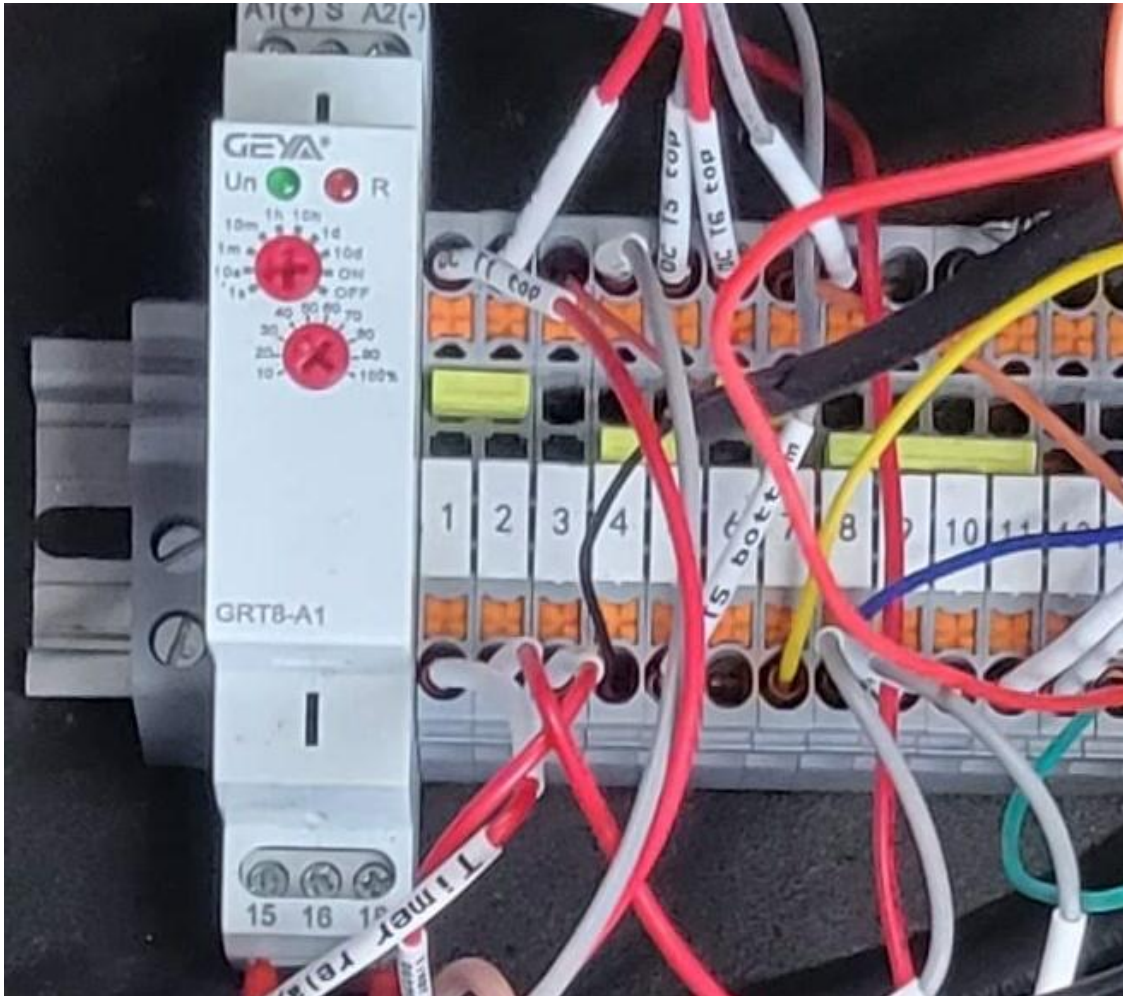
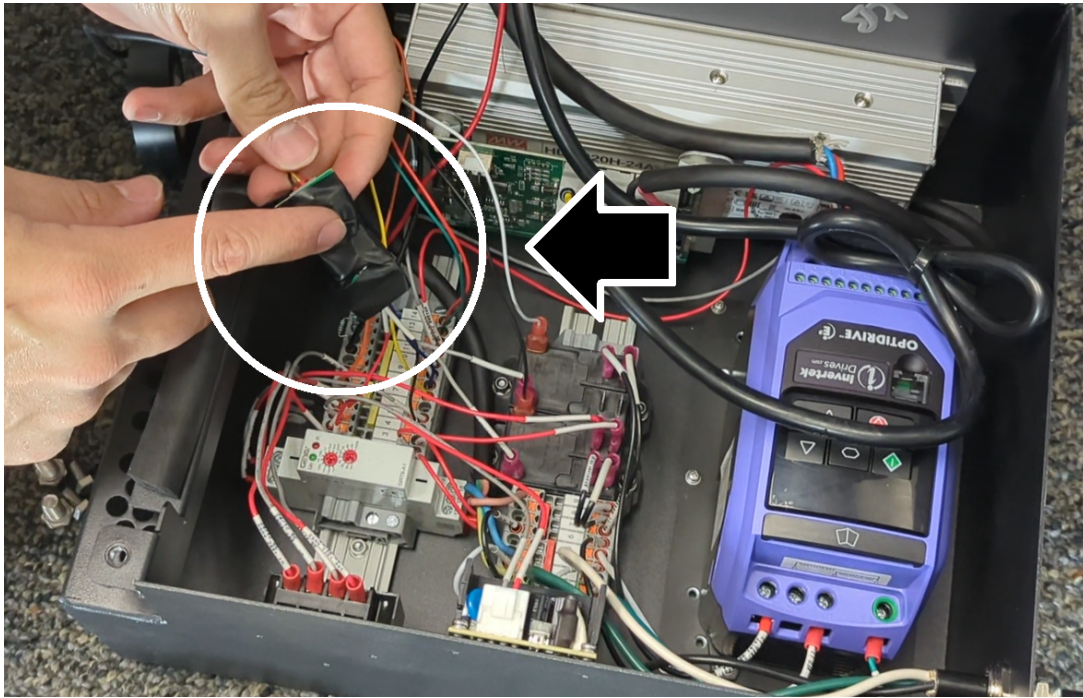

Figure 2.
Figure 3
7. Next, you must identify the wires for the water pump. This will depend if your model is a titan unit or a Max or Mach 4+. A thin black-sleeved cable that contains a red (positive), a black (Negative) wire and a Yellow (Speed) connected to a “**speed board**” (See figure 3.) in case of a titan unit the speed board is not present and the yellow cable might be tapped or cut the red and black cables are directly connected to the connector terminals. See Figure 2.
8. **IMPORTANT:** If you have a TITAN model, make a note of where the wires are connected to the E-Box. For Example, T3 Top Positive and T4 Bottom Negative. See Figure 2.
**NOTE:** BASE and MAX models of the Power Breezer mobile have their water pumps connected to a speed board. See Figure 3.